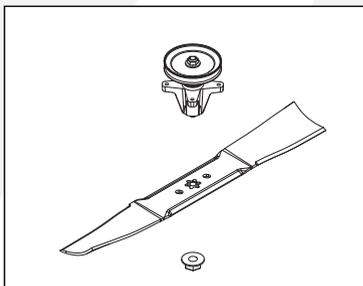

Fig. 28
5. Remove the blade nut and blade. (Fig.28)